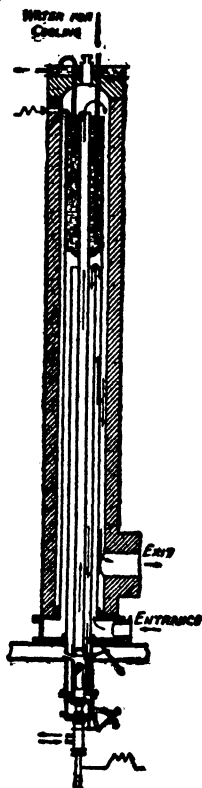

FIG. 31. MAKING NITRIC ACID FROM THE AIR
To *fix* the nitrogen from the air, that is, make nitric acid of it, continuous electric sparks, see Fig. 31, are made to take place in air flowing in a tube and the heat makes *nitric oxide* (NO) of it; this is